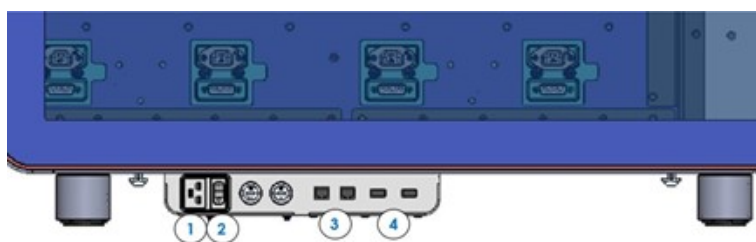

Figure 3. QIAstat-Dx Rise rear connection box.
1. First, make sure the power switch at the side connection box of the instrument must be set in the "I" position (Figure 3). Then press the **ON/OFF** button on the front of the QIAstat-Dx Rise to start the unit (Figure 5).